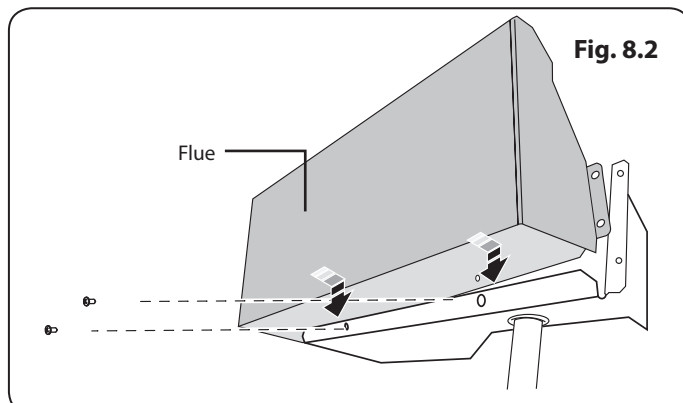

Fig. 8.3
1. Loosen the three screws in the back of the hotplate (**Fig. 8.3**).
2. Fit the flue vent over the screws and slide down (**Fig. 8.3**). Tighten the screws to secure.